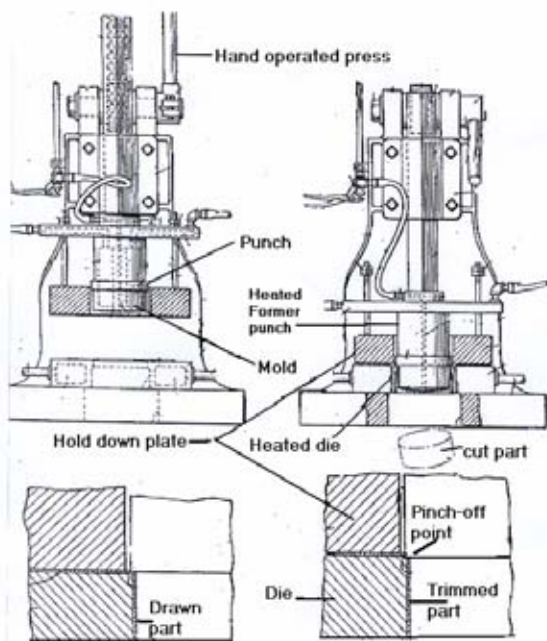

Figure 3. Manual deep drawing machine. Patent by H. E. Helmstaedter-1937.
Manual deep drawing of thermoplastic sheets is described in a 1937 patent by William E. Helmstaedter, of the Celluloid Corp. (later Celanese Corp.) as follows (Fig. 3):
- Fig. 3 - Manual Deep Drawing of Plastics Packaging, W. E. Helmstaedter, Patent #2,255,116 filed 1-21-1937 assigned to Celluloid Corp., Newark, N. J.